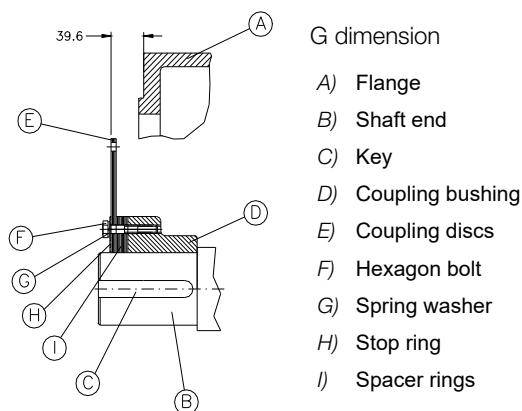

Figure 4.14: Procedure to change the G dimension
If it is necessary to change the "G" dimension, the position of the coupling discs (E) should be amended. To do this, simply remove or add the **spacer rings (I)**, as shown in Figure 4.14.